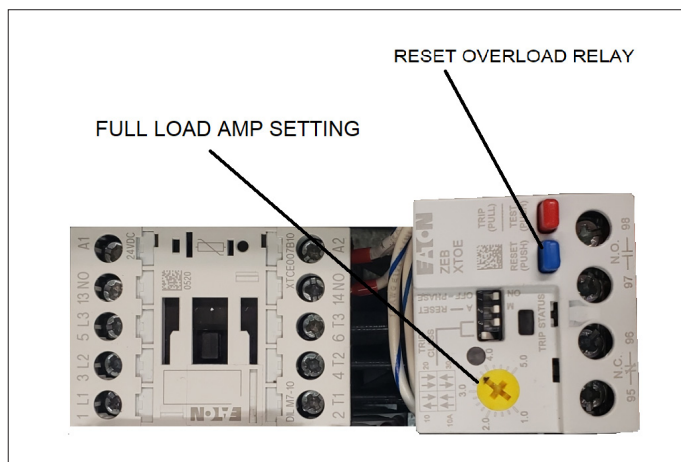

FIGURE 15.A—OVERLOAD RELAY FLA SETTING AND RESET
- The overload relay measures the load current, and when the current exceeds the Full-Load-Amperage (FLA) setting, see Figure 15.A, over a specific time frame the overload relay is tripped.
4. Push down on the blue "RESET" tab located on the bottom of the starter. See Figure 15.A.